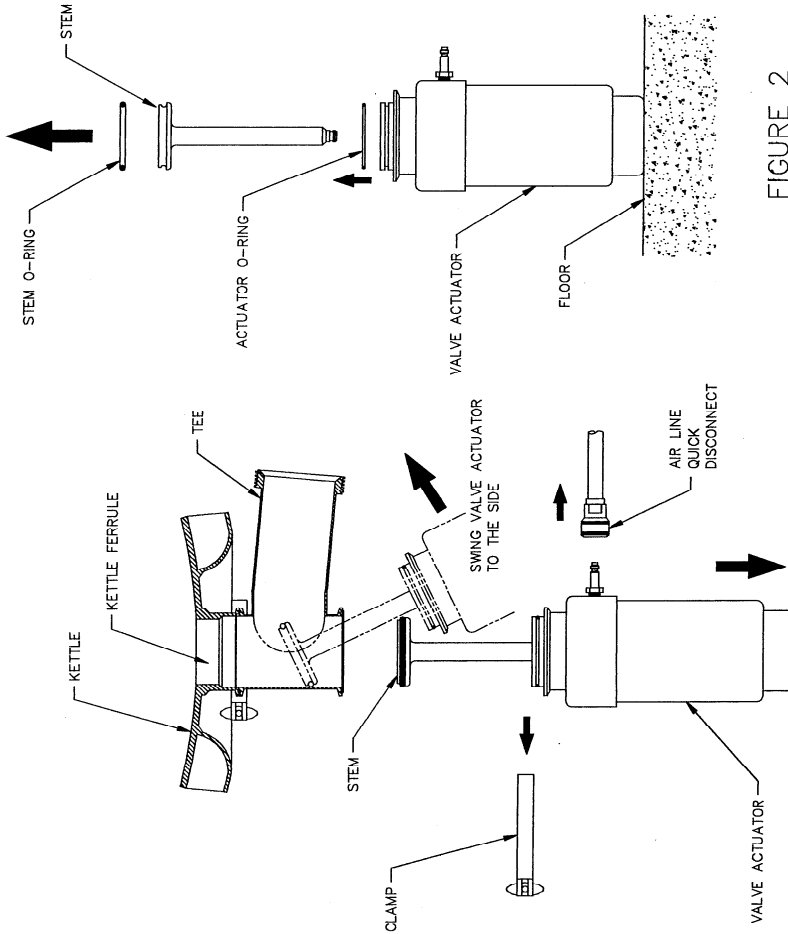
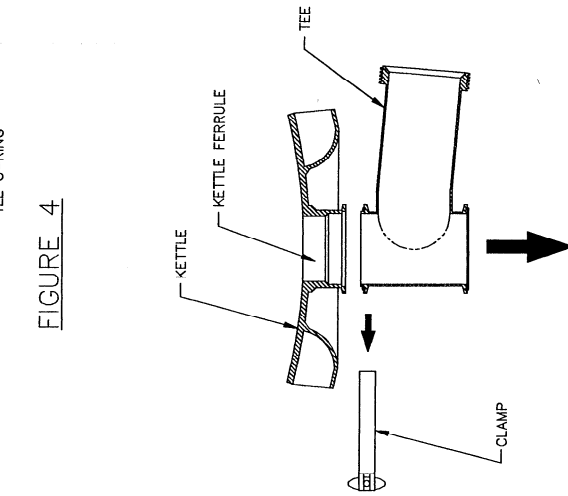

FIGURE 1
FIGURE 2
1. DISCONNECT THE AIR LINE FROM THE VALVE ACTUATOR AS SHOWN IN FIGURE 1.
2. WHILE SUPPORTING THE VALVE ACTUATOR REMOVE THE BOTTOM CLAMP FROM THE TEE, THEN LOWER THE VALVE ACTUATOR AND SWING IT TO THE SIDE UNTIL THE STEM IS CLEAR OF THE TEE AS SHOWN IN FIGURE 1. GENTLY LOWER VALVE ACTUATOR TO THE FLOOR AS SHOWN IN FIGURE 2.
3. REMOVE THE STEM FROM THE VALVE ACTUATOR BY PULLING UP WHILE HOLDING THE VALVE ACTUATOR IN PLACE AS SHOWN IN FIGURE 2. NEXT REMOVE THE O-RING FROM THE ACTUATOR & STEM AS SHOWN IN FIGURE 2.